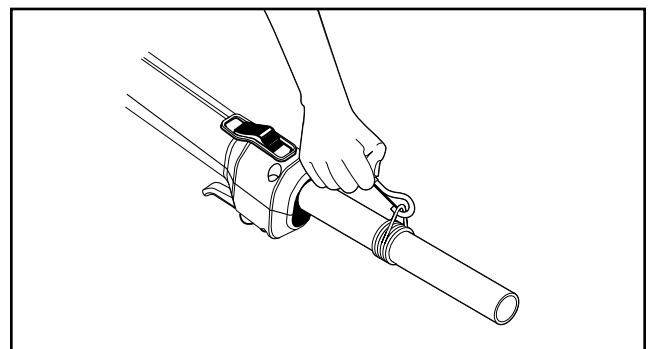

Fig. 5
3. Snap the shoulder strap onto the wire connector (Fig. 5). Adjust the length of the strap as desired.